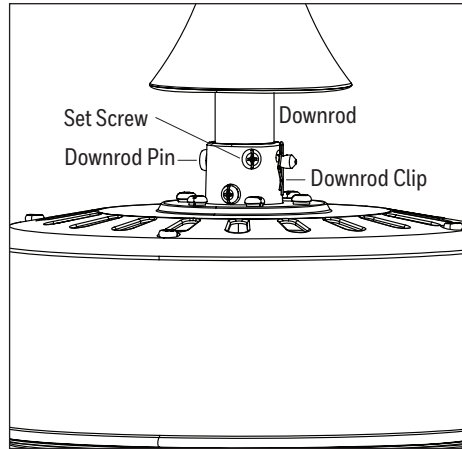

Figure 3.2
2. Slide the downrod into the yoke of the motor assembly. Align holes and reinstall the downrod pin and downrod clip and secure with the two set screws (Figure 3.2).